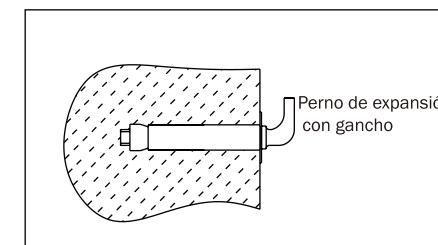

Fig. 2
- After selecting a proper location, determine the positions of the two holes used for expansion bolts with hook Make two holes in the wall with the corresponding depth and size matching the expansion bolts attached with the heater insert the screws, turn the hook upwards, tighten the nuts to fix firmly, and then hang the electric water heater on it (see Fig.2.).
(Fig.2)